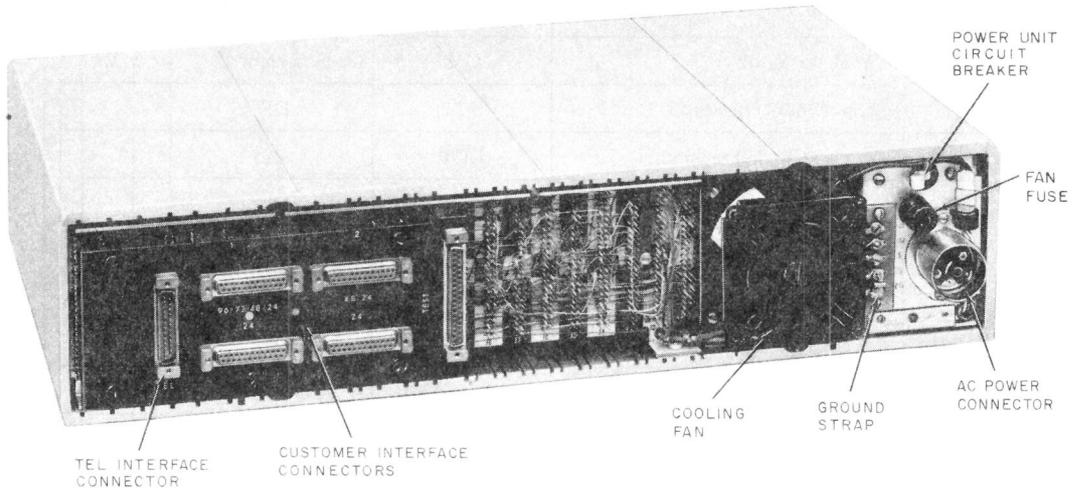

Fig. 2—Data Set 209A-L1 With Faceplate Removed—Rear View
**2.04** The data set is provided with four customer interface connectors, a TEL interface connector, and a power cord connector located at the rear of the set, as shown in Fig. 2. Customer interface connectors 1, 2, 3, and 4 are KS-19087-L2 and provide the digital interface leads for interface with CPE or extension data sets. The CPE must be equipped with a cable terminated in a Cinch or Cannon DB-19604-432 plug wired in accordance with Table A. The TEL interface connector is a KS-19088-L2 and provides the interface for connection to the 4-wire PL channel. The TEST connector,
**2.06** The data set power unit is protected by a circuit breaker mounted on the backplane inside the rear faceplate. In addition, the power unit is protected by a self-resetting thermal switch to prevent overheating. The data set cooling fan is protected by a fuse which is also mounted on the backplane. Locations of the circuit breaker and fan fuse are shown in Fig. 2.
**2.16** The telephone interface is accessible through the TEL connector (Fig. 2) at the rear of the data set. The connector pin numbers and the corresponding lead designations are given in Table C.